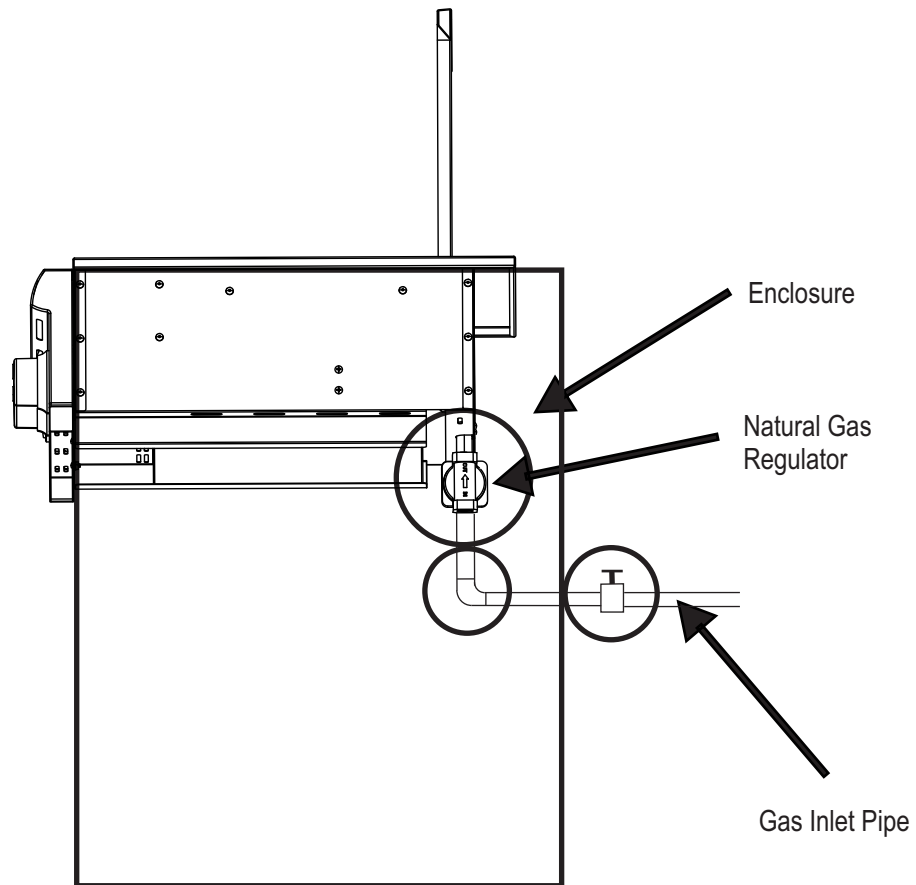

Figure 9
3. Use a clean paint brush and a 50/50 mild soap and water solution. Brush soapy solution onto areas indicated. (see Figure 9).